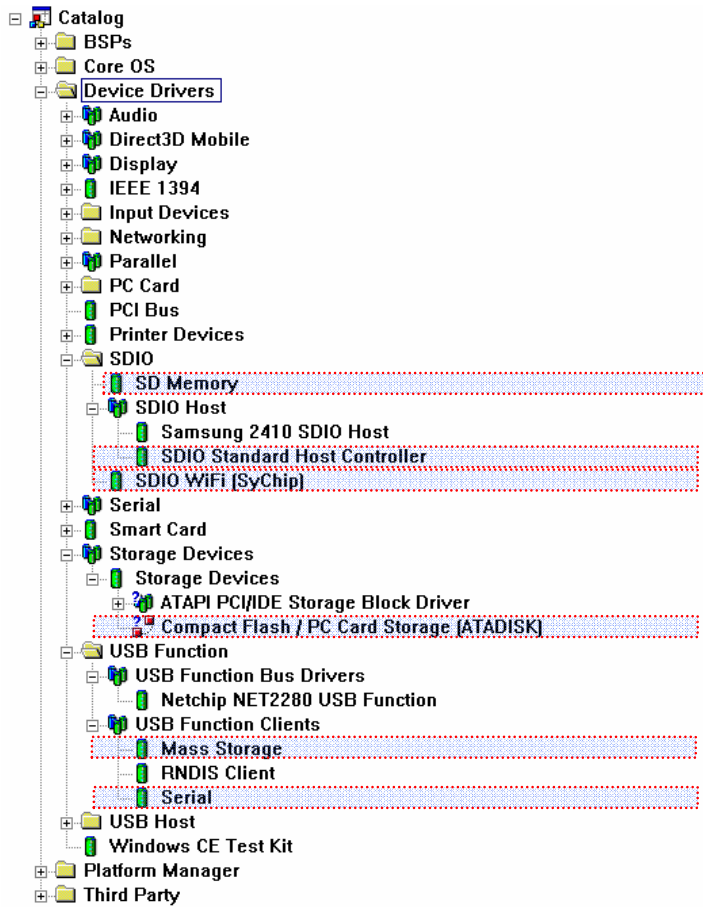

Figure 4-6 Some which you should add to OS Design
- On the **Build OS** menu, click **Build and Sysgen** as shown in figure 4-6 to build the **Eboot** image.